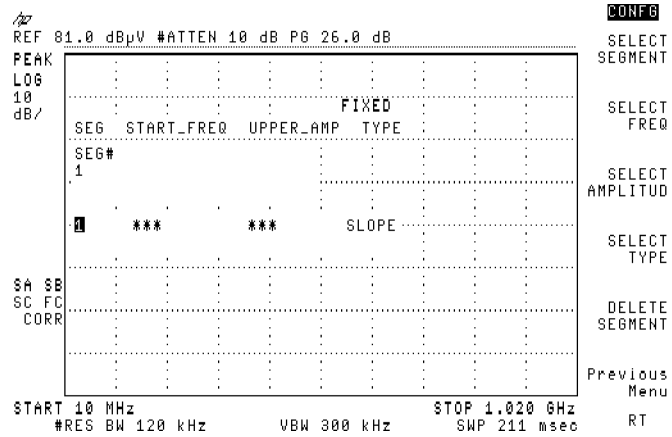

Figure 3-66. **CREATE LIMIT** Softkey Menu
12. Press **Create Limit** two times. See Figure 3-66.